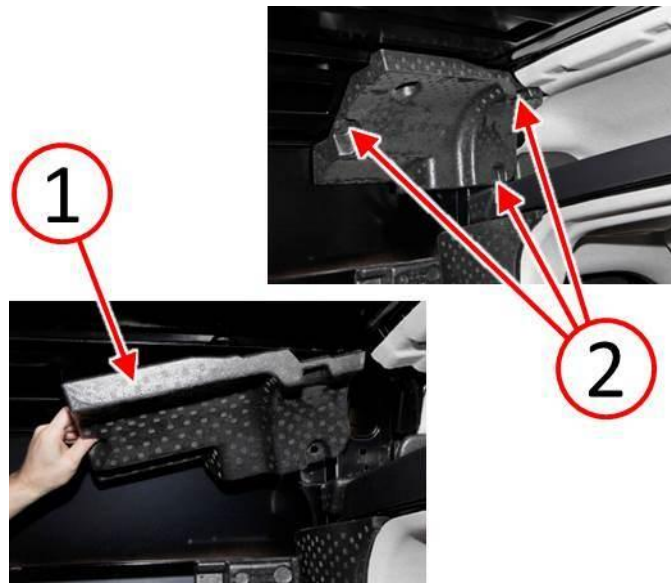

Fig. 19 Install Roof Absorber
19. Install the left side roof absorber (1) to the vehicle (Fig. 19).
20. Install the push pins (1) to the left side roof absorber (Fig. 19).